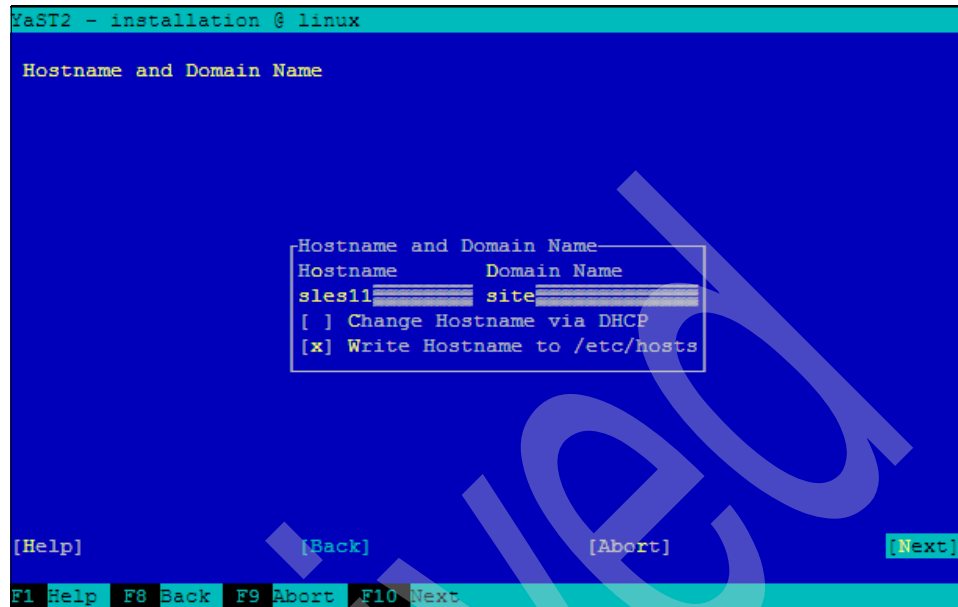

Figure 9-27 Hostname and Domain Name
20. Provide the host name and the domain. Select **[Next]** to confirm. See Figure 9-27 on page 380.